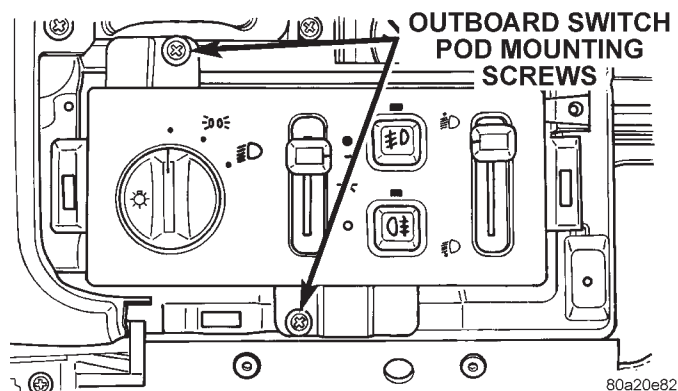

Fig. 10 Outboard Switch Pod Remove/Install
(1) Remove the cluster bezel from the instrument panel. See Cluster Bezel in this group for the procedures.
(2) Remove the two screws that secure the outboard switch pod to the instrument panel (Fig. 10).